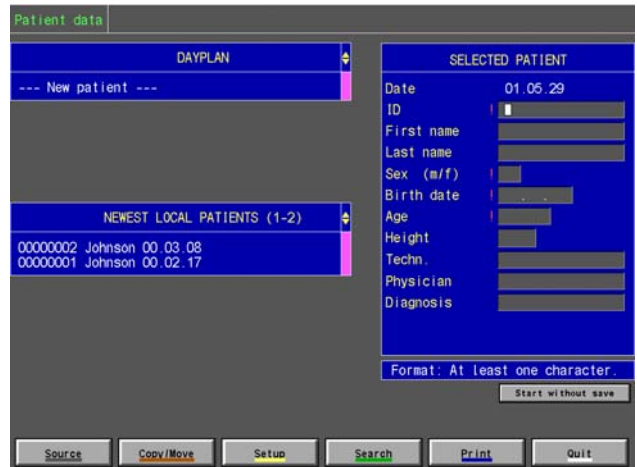

Figure 43 The Patient Data Window
- Click on the Start Page, and the Patient Data Window appears, see Figure 43 below:
- Select and click on the patient data wanted, or enter the patient data in the Selected Patient box. All the boxes marked with an "!" have to be filled in at a minimum, otherwise the program cannot proceed, see Figure 43 above.